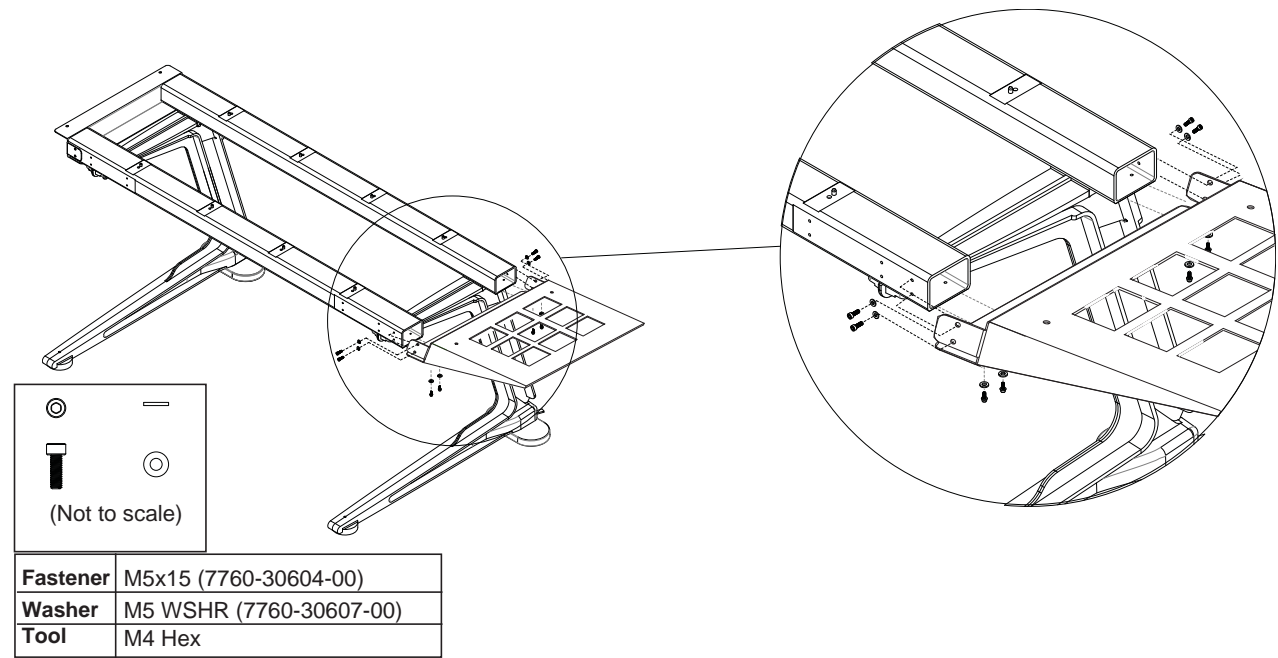

Figure 20. Installing a Leg Frame Extension
- 1 Attach any Leg Frame Extension(s) as shown in Figure 20.